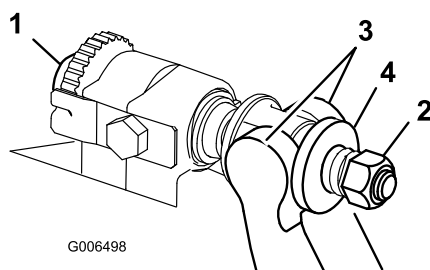

Figure 25
1. Turn bedbar adjuster screws, counterclockwise, to back bedknife away from reel (Figure 25).
2. Back out the spring tension nut, until the washer is no longer tensioned against the bedbar (Figure 25).